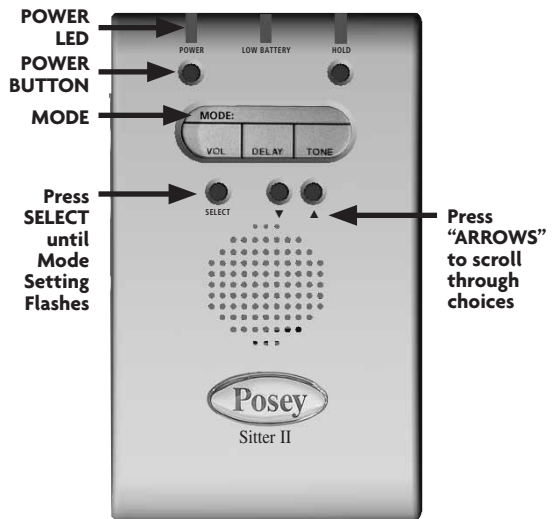

Fig. 3
The Sitter II has four (4) alarm modes. These allow you to select an alarm signal best suited to patient and facility needs. Indicator on LCD displays which mode is in use (fig. 3).
1. Ensure the alarm is powered on and the sensor is attached to the alarm. The alarm should be in active monitoring mode (green LED light flashes above the POWER button, fig. 3). Place pressure on the sensor pad, connect the chair belt sensor or make sure the PIR sensor is activated.